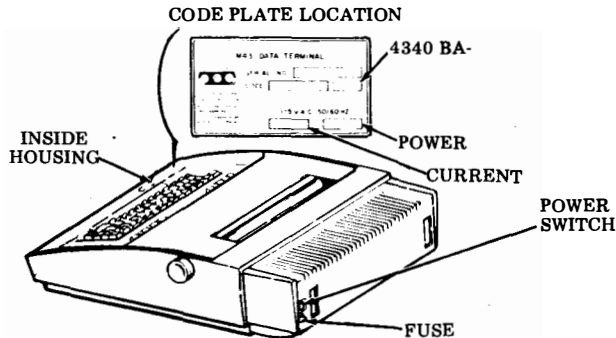

Fig. 4— Tabletop 43 Buffered KSR Teleprinter Identification
3.02 The Tabletop 43 Buffered KSR Teleprinter is available in either sprocket feed or friction feed versions containing a 4K or 16K memory buffer. See Fig. 4 for Teleprinter identification.